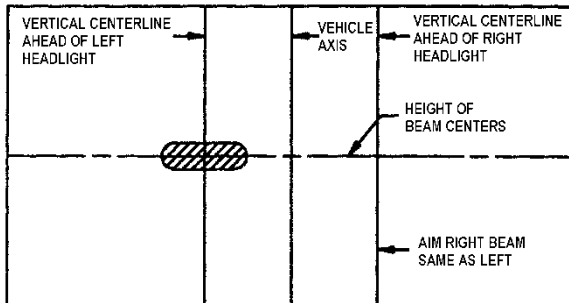

FIGURE 54: UPPER BEAM HIGH-INTENSITY ZONE PROPER LOCATION ON SCREEN
4. High beam headlights are aimed so that the center of the high-intensity zone is located at the horizontal and straight ahead vertically (Figure 54).